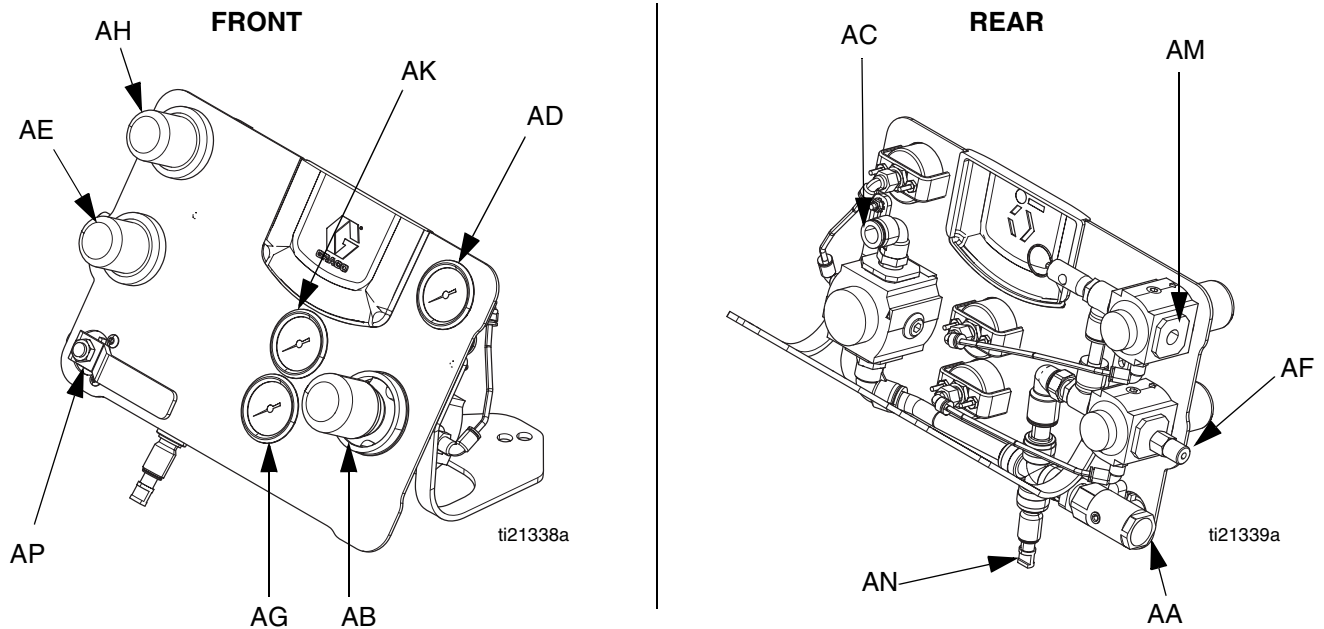

FIG. 7: Air Control Panel Components
1. Verify air line from air outlet 1 (AC) on air control panel is connected to air inlet (M) on air motor. See FIG. 2 on page 13 and FIG. 7.
2. Connect AAC air line from gun hose bundle to air outlet 3 (AM) on air control panel. See gun manual for AAC air line identification.
3. *External mix proportioners only:* Connect the supplied air tubing attached to air outlet 2 (AF) to atomized air line on gun.